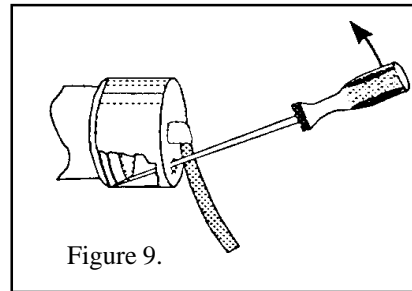

Figure 9.
3. Remove the snap-on cord cap by inserting a slotted screw driver into the access hole as illustrated in Figure 9 and prying upwards.
3. Remove the snap-on cord cap by inserting a slotted screwdriver into the access hole and prying upwards, as illustrated in Figure 9, Section IV Relamping Instructions.